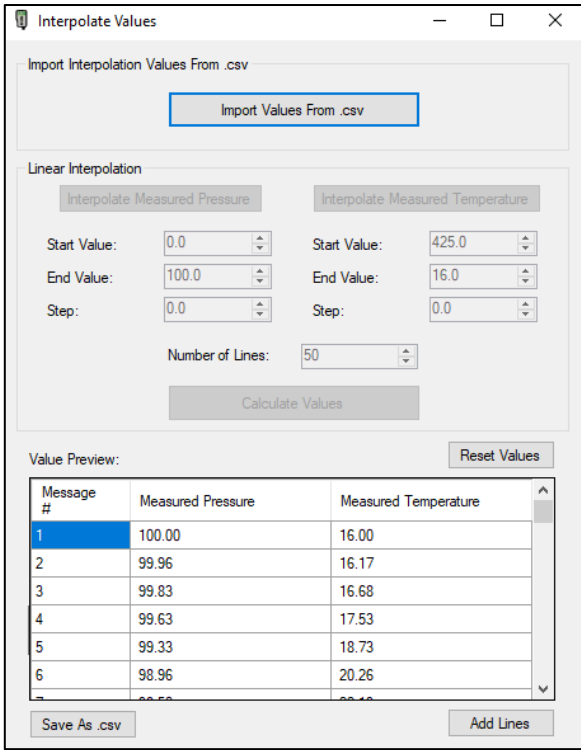

FIGURE 6-47 HHT TEST PATTERN GENERATOR SOFTWARE –IMPORTED FILE CONTENTS
STEP 3	View the imported interpolation data in the “Value Preview” section of the Interpolation window – see Figure 6-47.